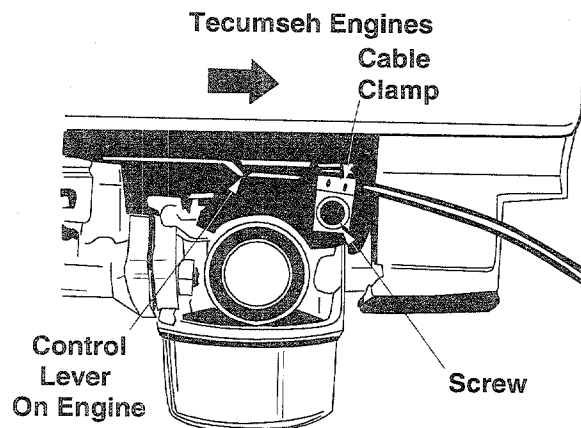

Figure 17
**NOTE:** If you have a Tecumseh engine, simply loosen the screw shown in Figure 17 so the cable will move freely beneath the clamp. It is not necessary to remove the screw and clamp completely.